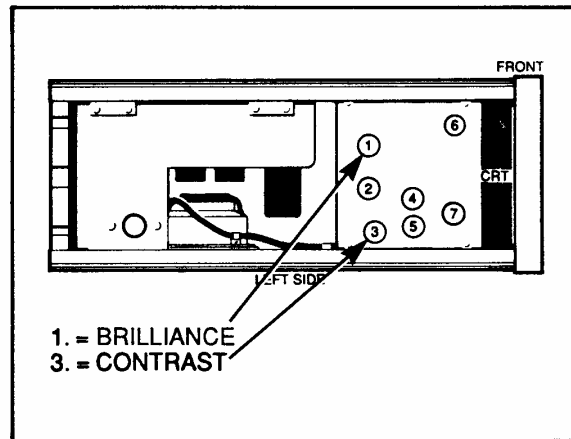

Figure 6-12. CRT Adjustments
- b. On the CRT driver board, located on the left (as you face the front) side of the instrument, adjust the CRT contrast and brightness (brilliance) controls (Figures 6-12) until the display starts to "bloom", or distort, on any of the inverse video blocks. (If there are no inverse video blocks present, open a parameter from the front panel.)